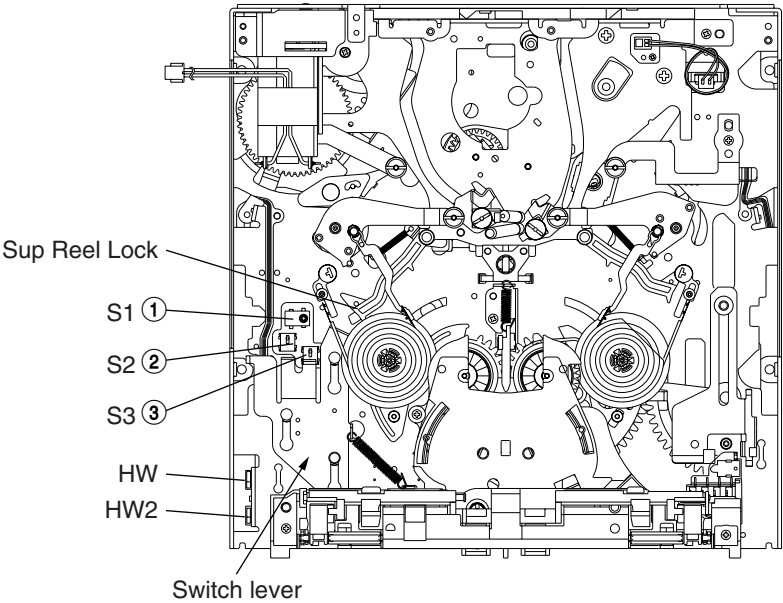

Fig. 8.2.7 Switch Location
- Intake complete** : When cassette intake is completed, in conjunction with the housing movement the main deck's switch lever slides, causing the MECHA board S3 (cassette switch) to be pressed, and intake completion is detected. (See Fig. 8.2.7)